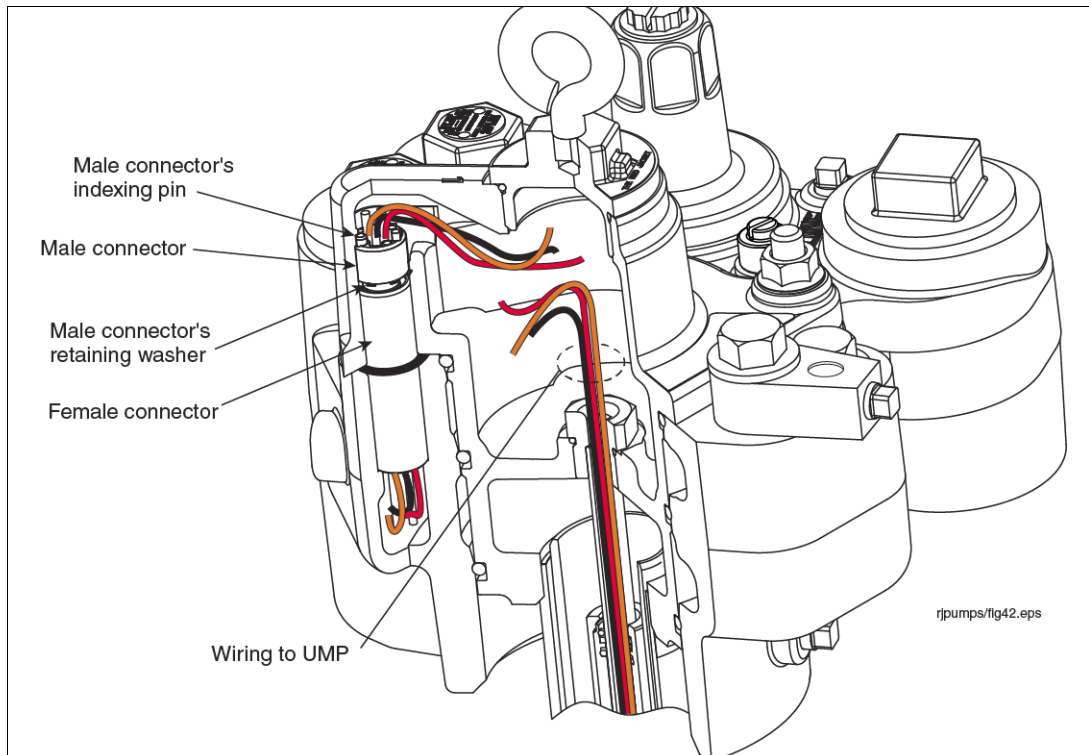

Figure 46. Packer-To-Manifold Wiring Connectors
5. Locate the male connector inside the packer (see Figure 46).
22. Remove the manifold's female connector's o-ring. Get the 0.862" ID x 0.103" wide o-ring from the connector kit and lubricate it with petroleum jelly. Insert this o-ring in its groove in the manifold around the female connector (see Figure 46 on page 56).